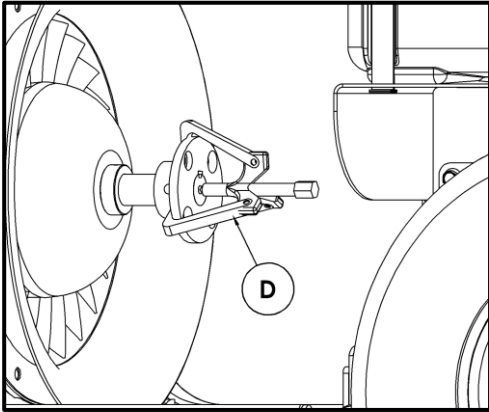

Figure 31 3-Jaw Puller on Turbine Coupling Flange
46. Use a 3 jaw puller [D, Figure 31] to remove the blower shaft coupling flange and keystone. **CAUTION** May require a MAP-Pro/Propane torch to heat the coupling flange.